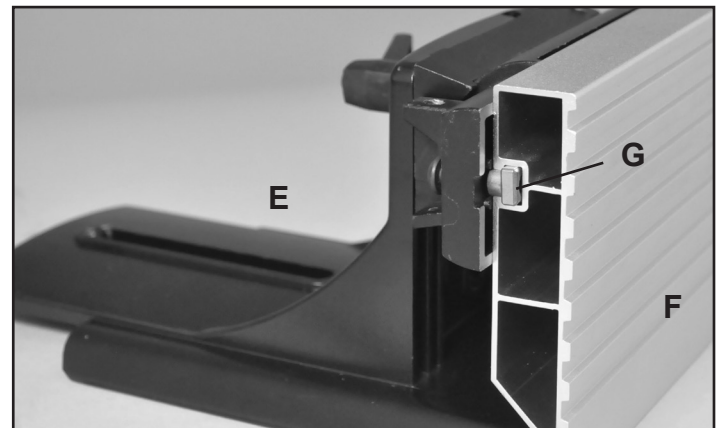

FIG. 2
2. Assemble the Fence Sliding Bracket (E) to the Fence (F). The Square Nut (G) should fit in the groove of the fence. FIG. 2.